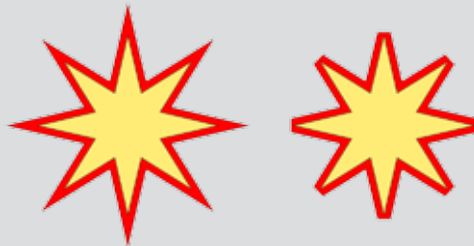

Fig. 18 - Two star shapes with outlines. The second star has an outline that has been clipped at 70%.
- ❑ **Miter:** Corners of shadow outline are clipped (See Fig. 18 for the *Miter Limit* description under *Outlines and Inlines* for an example)